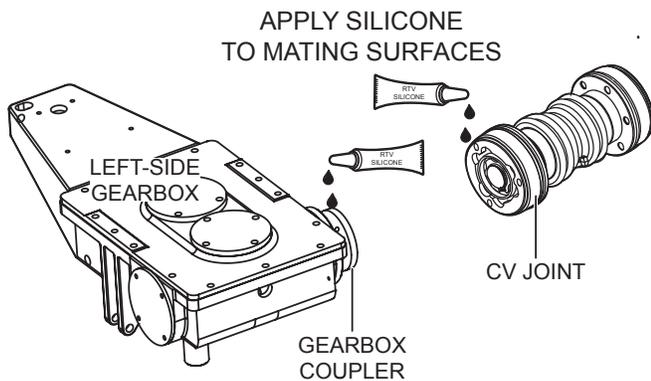

Figure 29. RTV Silicone Application
- Apply a thin coat of RTV silicone to the mating surfaces of the CV joint and left-side gearbox coupler (Figure 29).